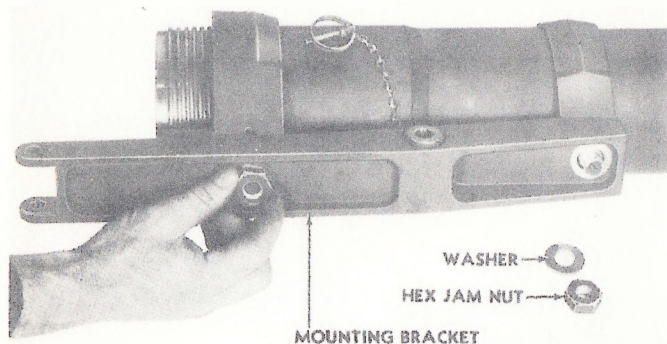

Fig. 20. Removing hex jam nut.
a. Mounting bracket. (Fig. 20) To disassemble mounting bracket, remove hex jam nuts on under side of bracket, using appropriate socket wrench on the combination tool. Remove washers and pull off bracket. To assemble, reverse procedure for disassembly.